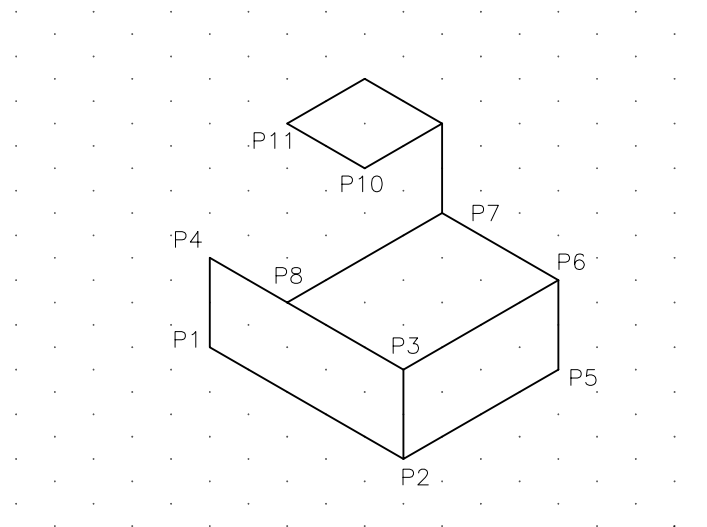

Figure 24-12 *Drawing the remaining lines*
5. Similarly, draw the remaining lines, refer to Figure 24-12.